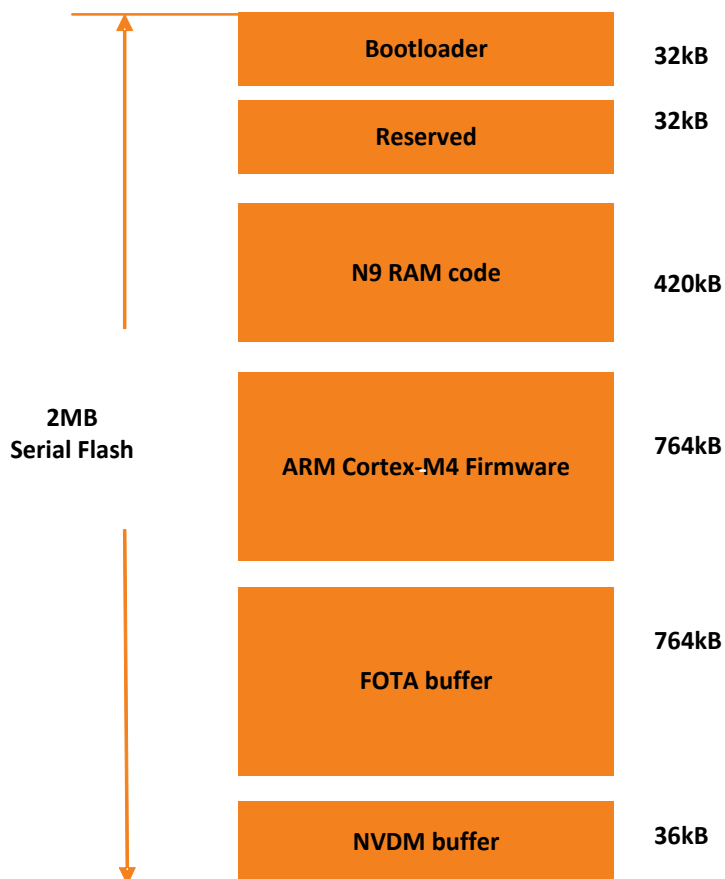

Figure 3-1. The load view of the 2MB flash memory layout
MT7687F has 2MB internal serial flash memory. The load view on the flash memory of the HDK is shown in Figure 3-1.
- Non-Volatile Data Management (NVDM) buffer. There are two blocks reserved for the NVDM buffer management. The first NVDM buffer after the Bootloader (see Figure 3-1) is not configurable, but the second NVDM buffer is configurable, see section 3.1.4 for more details.
NVDM buffer	The first NVDM buffer located after the Bootloader is not configurable, no need to modify. The second NVDM buffer starting address and size are configurable (see Figure 3-1).